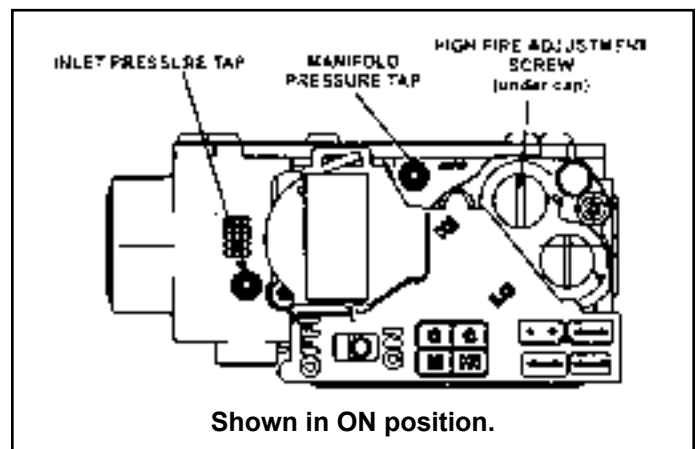

Figure 43. White Rodgers Gas Valve
See Figure 43
6. Move gas valve switch to OFF position. Do not force. See Figure 43.
7. Wait five (5) minutes to clear out any gas. If you then smell gas, **STOP!** Immediately call your gas supplier from a neighbor's phone. Follow the gas supplier's instructions. If you do not smell gas go to next step.
8. Move gas valve switch to ON position. Do not force. See Figure 43.
4. Move gas valve switch to OFF position. Do not force. See Figure 43.
An inlet post located on the gas valve provides access to the supply pressure. See Figure 43. Back out the 3/32 hex screw one turn, connect a piece of 5/16 tubing and connect to a manometer to measure supply pressure. See Table 25 for supply line pressure.
1. Connect test gauge to manifold pressure post tap (Figure 43) on gas valve.
4. If necessary, make adjustments. Figure 43 shows location of high fire adjustment screw.